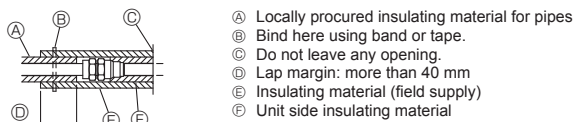

Fig. 4-1
3. Be sure to add insulation work to water piping by covering water pipework separately with enough thickness heat-resistant polyethylene, so that no gap is observed in the joint between indoor unit and insulating material, and insulating materials themselves. When insulation work is insufficient, there is a possibility of condensation, etc. Pay special attention to insulation work in the ceiling plenum. [Fig. 4-1]